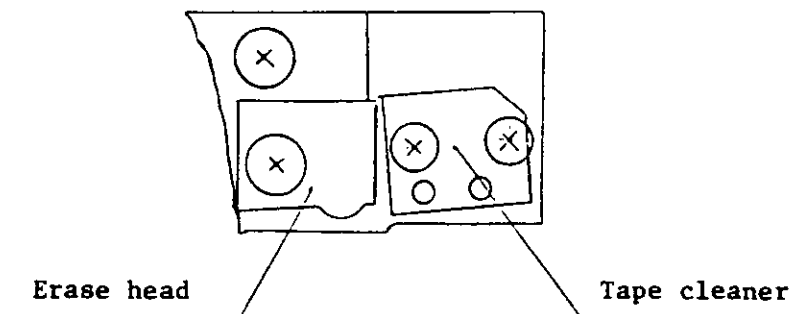

Figure L.3 Tape cleaner
- (1) Remove two screws shown in Figure L.3.
- (2) Remove the tape cleaner.
- (1) Place the tape cleaner onto its positioning pin.
- (2) Tighten the two screws shown in Figure L.3.